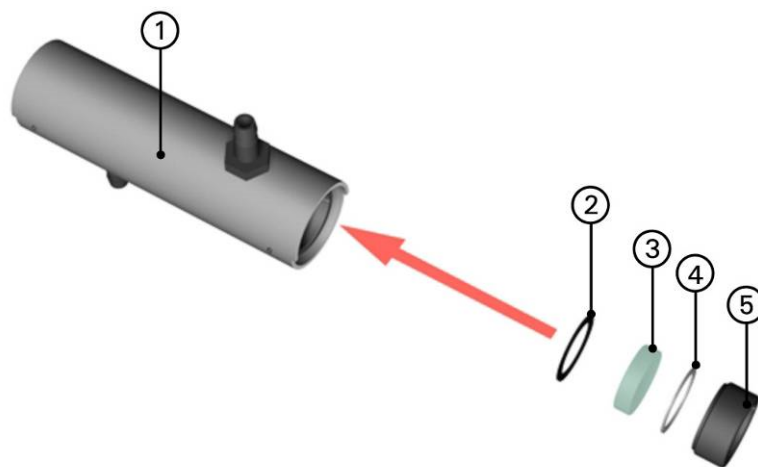

Figure 30: Calibration measuring cell window
| 1. | Remove the ring nut (Figure 30, pos. 5) using the face wrench.  |                          |
| 2. | Remove the Teflon slide ring (Figure 30, pos. 4), measuring cell window (Figure 30, pos. 3) and the seal (Figure 30, pos. 2) from the calibration measuring cell. |                          |
| 4. | <p>Position the seal (Figure 30, pos. 2) in the bore of the calibration measuring cell.</p>   |                                 |
| 5. | <p>Reposition the measuring cell window (Figure 30, pos. 3) on the seal.</p>  |                                 |
| 6. | <p>Position the Teflon slide ring (Figure 30, pos. 4) on the measuring cell window.</p>   |                                 |
| 7. | <p>Screw in the ring nut (Figure 30, pos. 5) with the special wrench.</p> <hr/> <p> Do not fasten too tightly, as the measuring cell windows can break.</p>  |                                 |